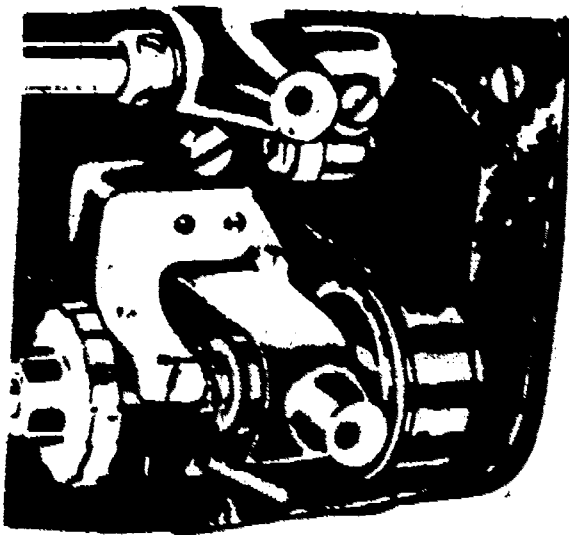

Figure 32. Timing Alignment of Arrows.
3. Check alignment of arrows A and B in figure 32.
6. Replace connection belt by hand, figure 32. After replacing belt, give balance wheel a full turn and check arrows again. Arrows sometimes slip out of line when replacing belt.